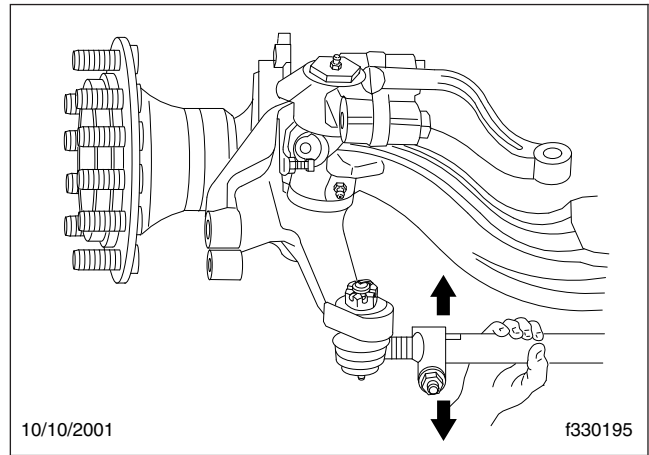

Fig. 8, Check Movement of Tie Rod End
- Position yourself directly below the ball stud socket. Using both hands, grab the end as close to the socket as possible, no more than 6 inches (15.2 cm) from the end. Firmly apply about 100 pounds of hand pressure in an up and down motion several times. When moving the assembly, check for any movement at both tie rod ends. See Fig. 8.